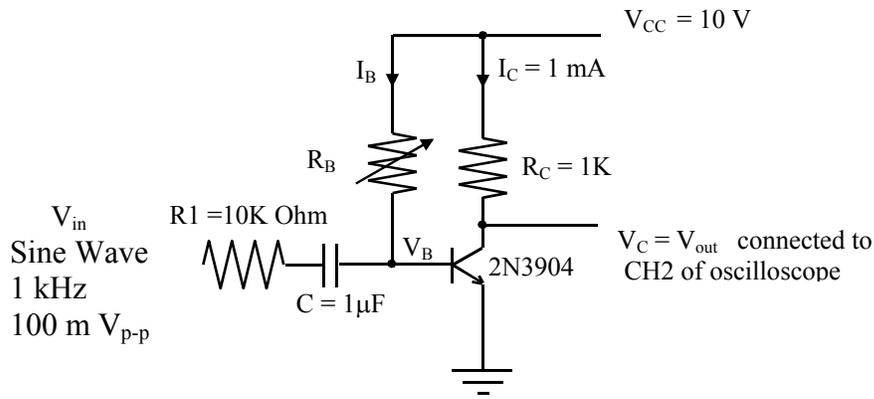
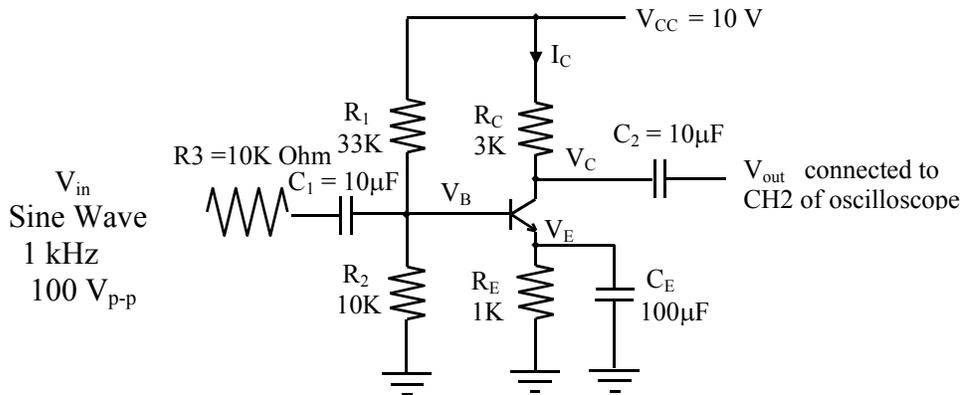

Figure 2. A simplest amplifier for small signal
Figure 3. A more general common-emitter amplifier
Figure 2 shows an amplifier that uses the minimum number of resistors and capacitors. An NPN transistor 2N3904 is used to built the amplifier. R_B is a variable resistor (using an R-substitution box) that is to be adjusted to achieve an $I_C = 1 \text{ mA}$. Let us first to estimate the approximate value of R_B . Assuming $\beta = 100$, then $I_B = I_C/\beta = 1 \text{ mA}/100 = 10 \mu\text{A}$. Since the voltage between B and E is approximately 0.65 V ($V_B = 0.65\text{V}$), the value of R_B can then be determined by the following equation.
The emitter of the transistor in circuit shown in Figure 2 is directly grounded. That makes the voltage V_B to be about 0.65 V. As a result, the input signal V_{in} can't be more negative than -0.65 V. In addition, for the circuit shown in Figure 2, R_B needs to be adjusted for each transistor depending on the value of β . To simplify the adjustment of the circuit and allow a larger input signal, the following circuit can be used.
In the circuit shown in Figure 3, V_B is relatively stable for different transistors, and can be determined approximately by the following equation:
- a) Step 1. Build the circuit according to Figure 3.
The circuits shown in Figure 2 and Figure 3 are called linear amplifiers because one of the most important requirements for the circuit is that the output signal keeps exactly the same waveform of the input signal (no waveform distortion). In digital application, the output of the circuit has only two levels: zero level (logic 0, or logic No) and full-voltage level (logic 1, or logic Yes). For example, depending on the input, the circuit may turn on/off an LED, activate/de-activate a solenoid which opens or closes a valve, energize/de-energize a relay which in turn turns on/off a motor, light, or alarm. In design such a circuit, one mainly needs to consider the current required for driving the output device. For example, if the solenoid needs 150 mA to be activated, one has to use 2N2222 instead of 2N3904. The following two circuits show two examples. Build the circuit shown in